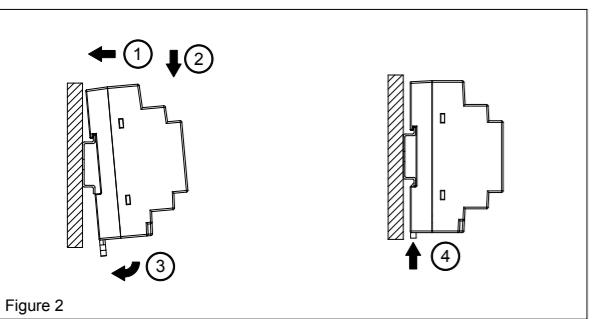

Figure 2
3. Mounting (Fig. 2)
Snaps on the DIN rail as shown in Fig. 2: